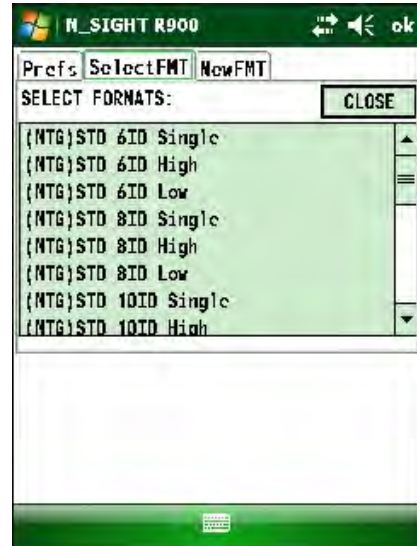

Figure 8.31 Select Formats Screen
- 1 Touch or click **SelectFMT** to view the available formats used for programming ProRead registers. See Figure 8.31.